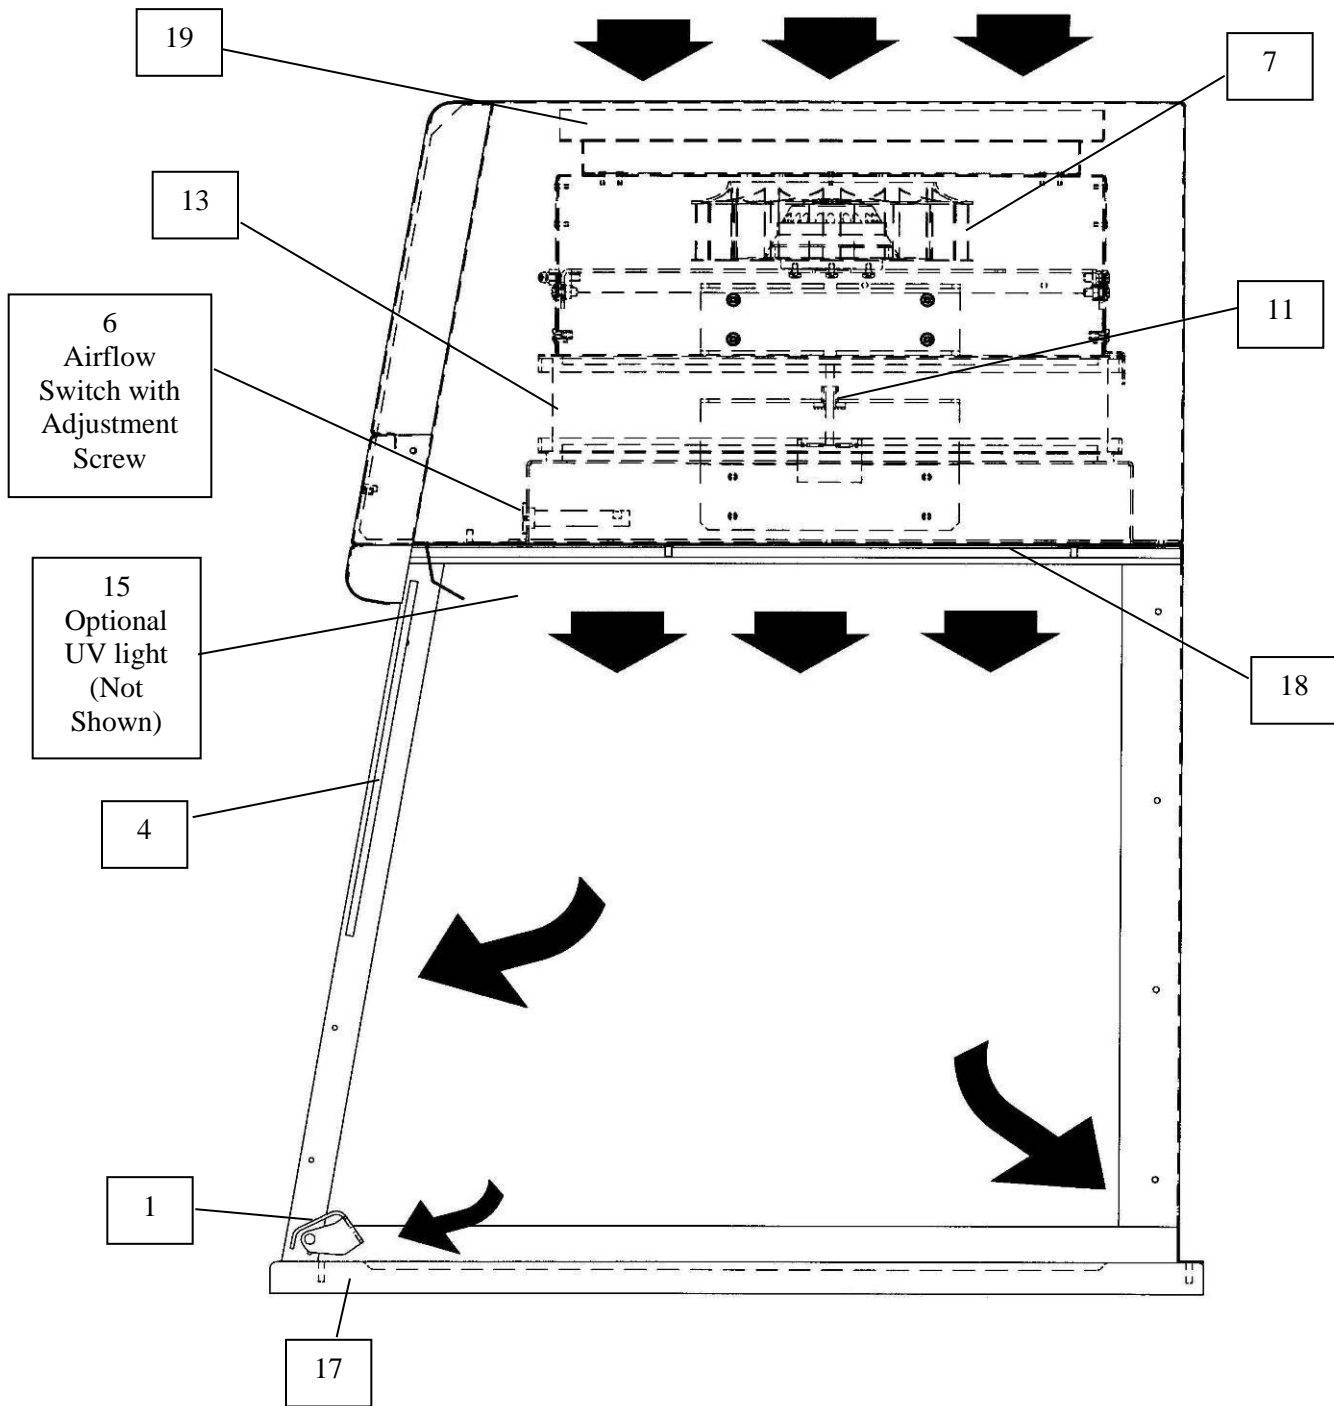

Figure 4-2
The HEPA filter is shipped installed with the gasket on the downstream side. The HEPA filter is leak checked at Labconco. A second leak check is recommended before using the enclosure and at least annually thereafter. Consult your Safety Officer and Chapter 6 for the HEPA Filter Leak Test. See Figure 4-2 for HEPA filter location, HEPA filter gasket, and filter clamp bolts. All seams downstream of the HEPA filter are jacketed by positive pressure. This intrinsically safe design ensures ISO Class 5 conditions inside the Vertical Clean Bench.
7. **Inherently Safe Impeller** has a negative pressure plenum that surrounds the positive pressure impeller so that if a leak should occur, the unfiltered air is captured and refiltered. See Figure 4-2.
8. **Speed Control** regulates the speed of the motorized impeller and is used by the certifier to validate and adjust the downflow velocity. Located behind the front panel. See Figure 4-2.
13. **HEPA (High Efficiency Particulate Air) Filter** is rated to remove 99.99% of all particles 0.3 micron in size. See Figure 4-2.
18. **Upper Diffuser Screen** provides protection for the HEPA Filter and promotes even distribution of downflow air. See Figure 4-2.